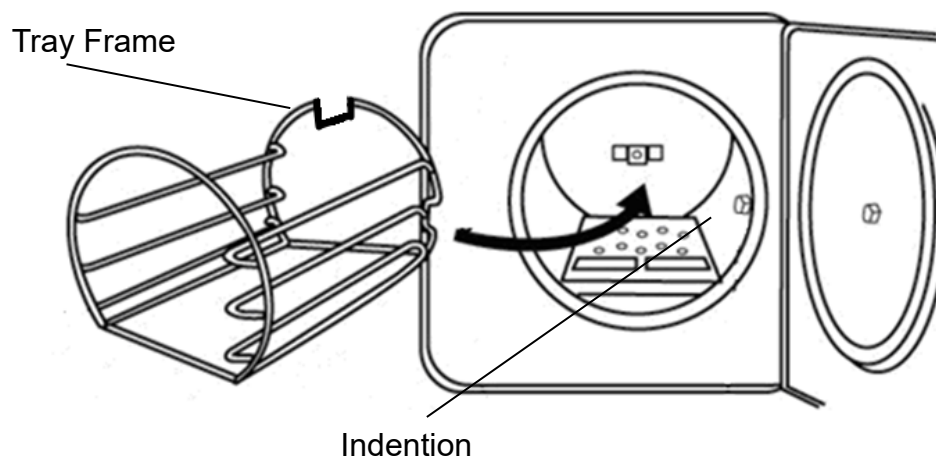

Figure 31
- B. Install the tray frame as shown in Figure 31 (standard accessory)
CAUTION: The frame should be installed as in Figure 31 below. The indentation of the frame will pass the bushing in the chamber.